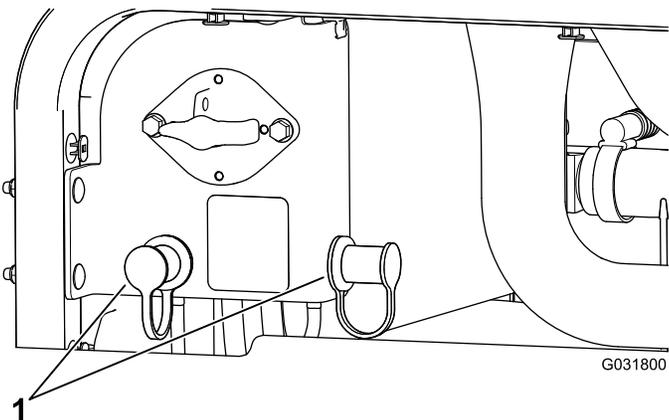

Figure 109
3. Remove the covers from the jump posts (Figure 109).
- Remove the covers from the jump posts (Figure 109).